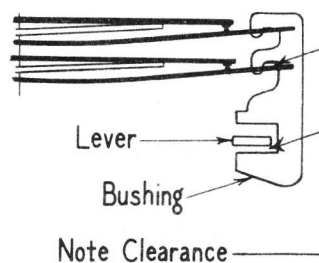

Fig. 17
6.04 Fig. 17 shows the switch springs in the operated position. The short contact springs should be approximately straight and parallel. The long contact springs should be approximately parallel and have a gradual bow. Check contact points; the bar contacts on the lower spring of the combination should engage the contact discs of the upper spring simultaneously. Each bar contact should meet its opposing contact within the circumference of the disc. With the springs properly adjusted a slight contact follow is perceptible to the eye. Note that there is clearance between fiber bushing and hook-switch lever, also between fiber bushing and long contact spring of the "X" spring combination, see Fig. 17.